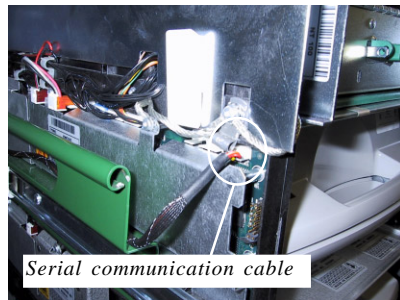

Figure 8. Connect the serial communication cable to the dispensing mechanism as shown. (forward-most connector)
7. Refer to Figure 8. Connect the serial communication cable to the CMC module on the dispensing mechanism. Make sure to run the cable through the guides that have been provided on the mechanism cover.